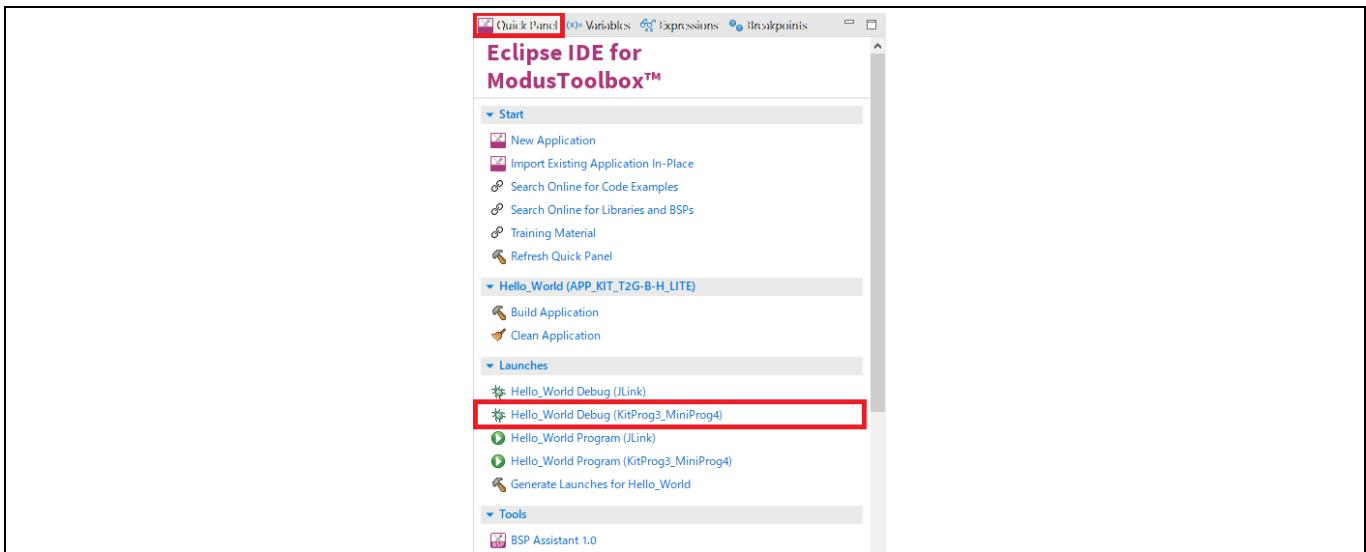

Figure 12 Debugging in ModusToolbox™ software
- ModusToolbox™ software has an integrated debugger. To debug a TRAVEO™ T2G-B-H MCU application, in the Project Explorer, select <App_Name> project. In the Quick Panel, scroll to the **Launches** section and click the <App_Name> Debug (KitProg3_MiniProg4) configuration as shown in Figure 12. For more details, see the “Program and debug” section in the Eclipse IDE for ModusToolbox™ user guide.